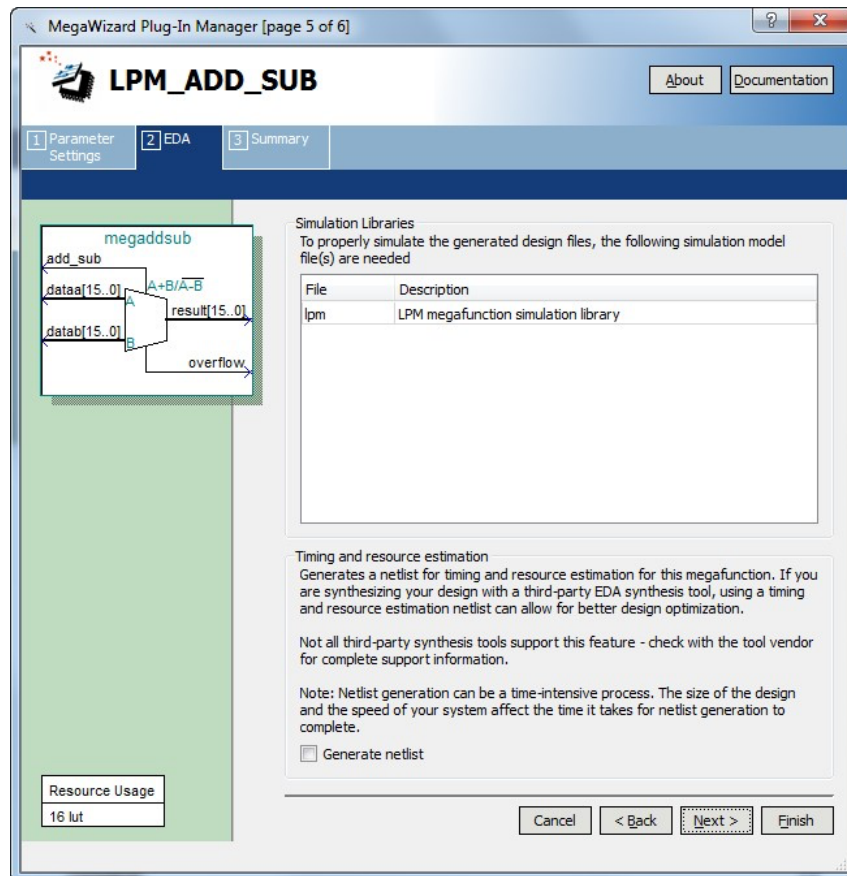

Figure 10. Simulation model files.
8. Figure 10 shows the simulation model files needed to simulate the generated design. Press Next to proceed to the final page.